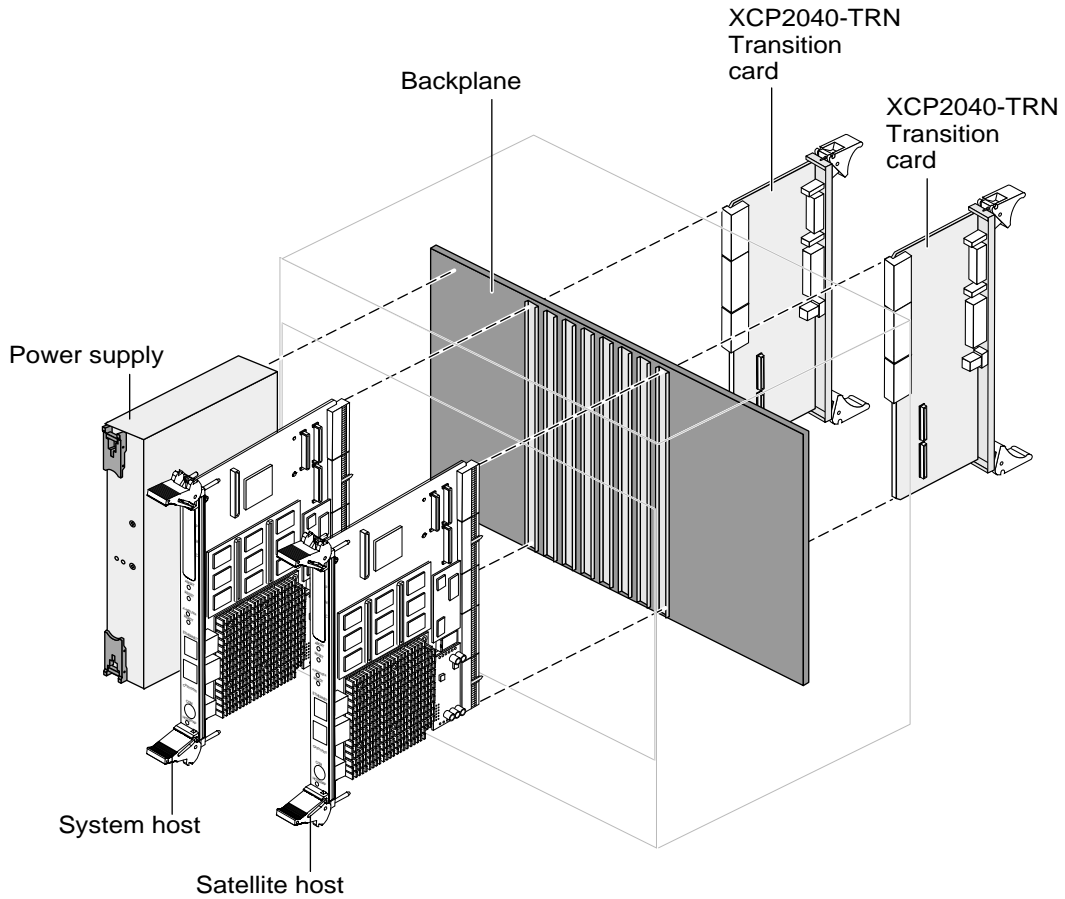
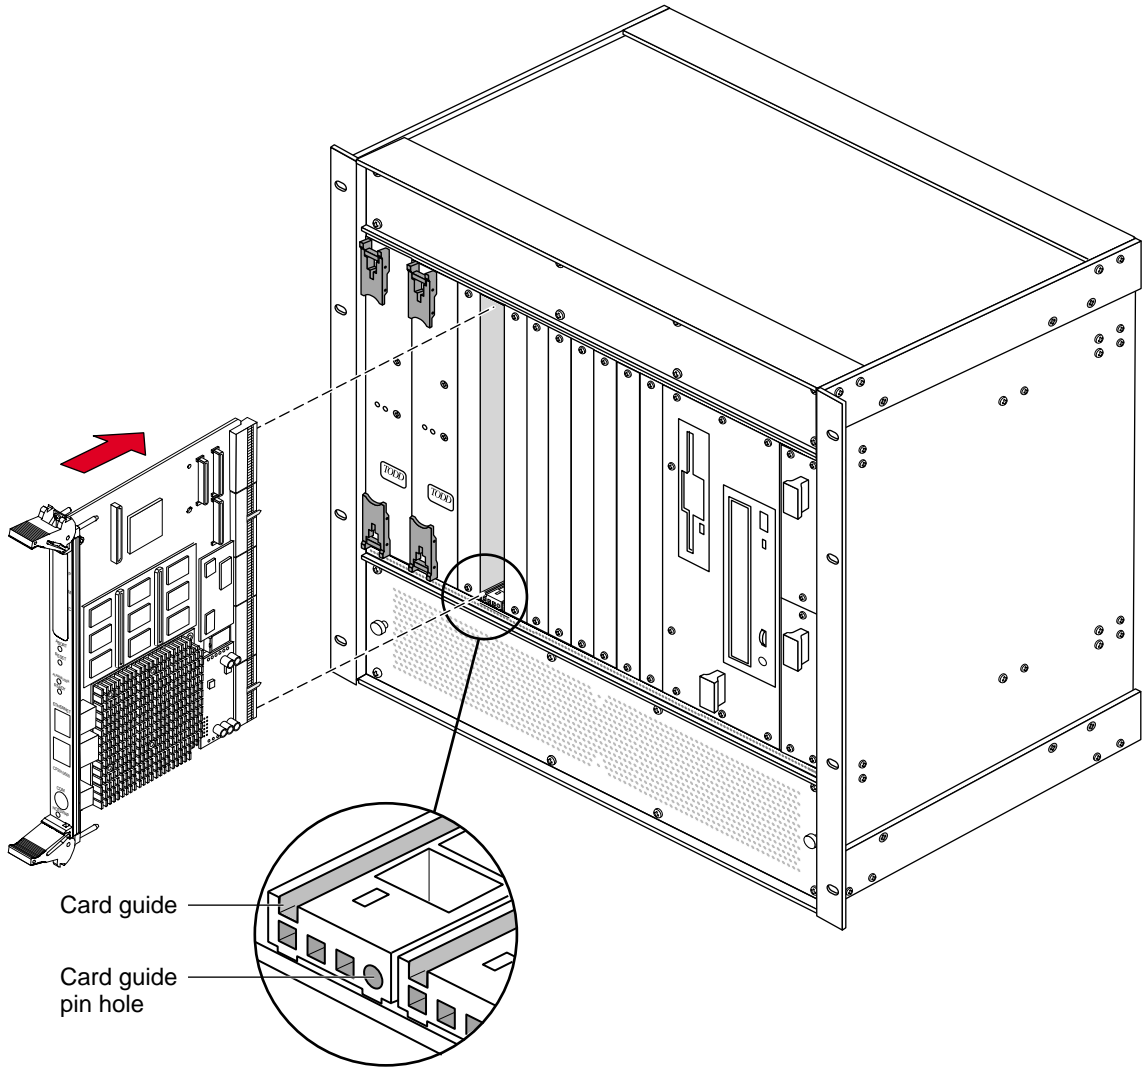

FIGURE 2-8 Netra CP2140 Board System Interface: One System Controller Board, One Satellite Board, Two Transition Cards
FIGURE 2-9 Netra CP2140 Board Installation (Close-up View)
A number of CompactPCI chassis enclosures come with an internal power supply and fan. FIGURE 2-8 shows two Netra CP2140 boards (system host and satellite host) being installed in a CompactPCI chassis.
3. Slide the CP2140 into the appropriate slot on the corresponding top and bottom mounting rails and towards the backplane while gently keeping the board handles pushed inward (see FIGURE 2-8 and FIGURE 2-9).